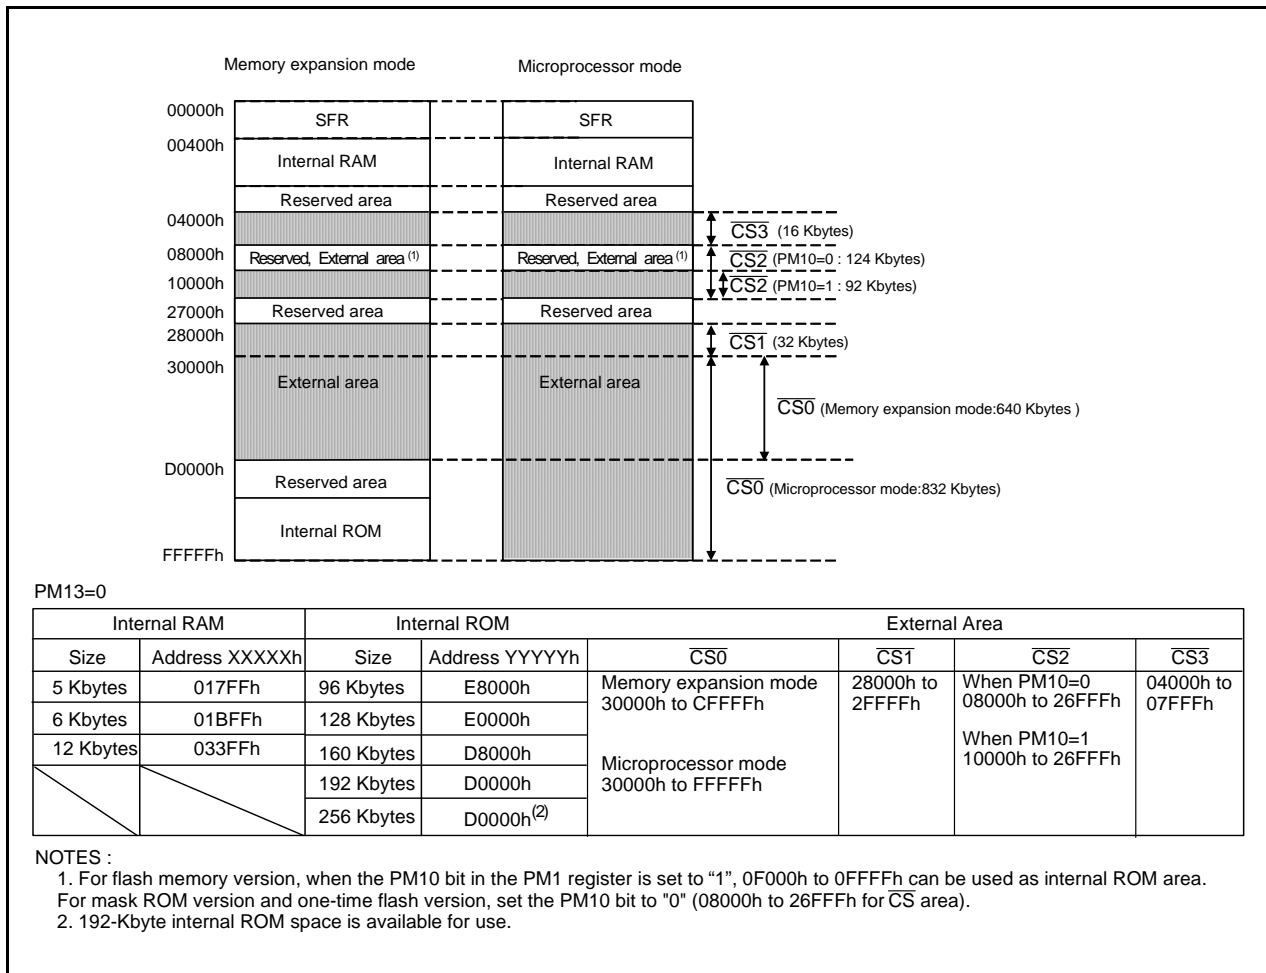

Figure 8.1 Memory Mapping and \overline{CS} Area in 1-Mbyte mode (PM13=0)
In this mode, the memory space is 1 Mbyte. In 1-Mbyte mode, the external area to be accessed is specified using the \overline{CS}_i ($i = 0$ to 3) signals (hereafter referred to as the \overline{CS}_i area). Figure 8.1 and 8.2 show Memory Map and \overline{CS} area. Refer to Figure 8.1 for models without the PM13 bit. See **Figure 6.2 PM1 Register (1)** and **Figure 6.3 PM1 Register (2)** to check presence or absence of the PM13 bit.